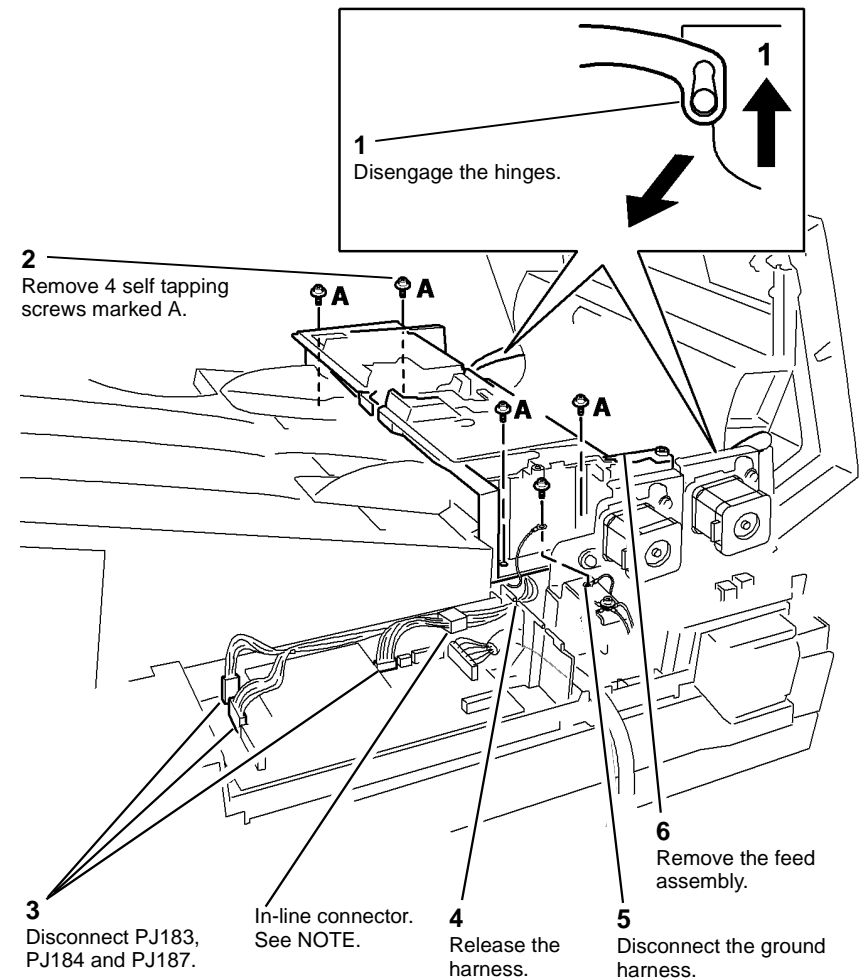

Figure 1 Feed assembly
4. Remove the feed assembly, Figure 1.